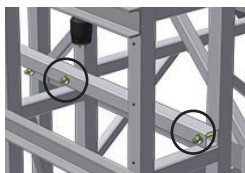

fig. 1.52
- 1- Insert the horizontal power cord support through the car structure and secure it to the vertical tubes with bolt assemblies, as shown in fig. 1.52.